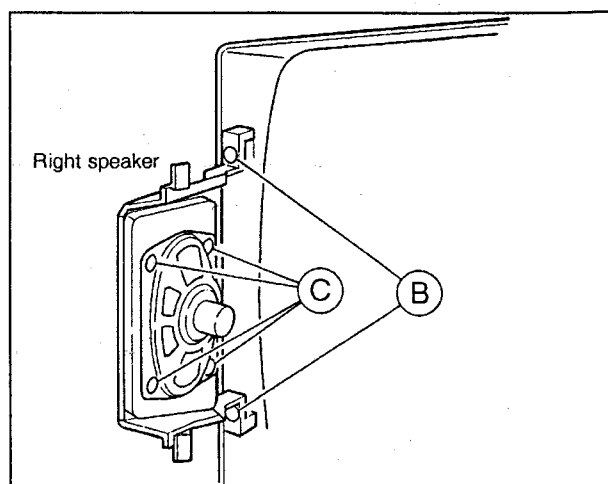

Fig. 3
- 1. Take out 2 screws (B) indicated in Fig. 3.
- 2. Take out 4 screws (C).
- ※ Fig. 3 indicates only the right speaker. Remove the left speaker in the same manner.